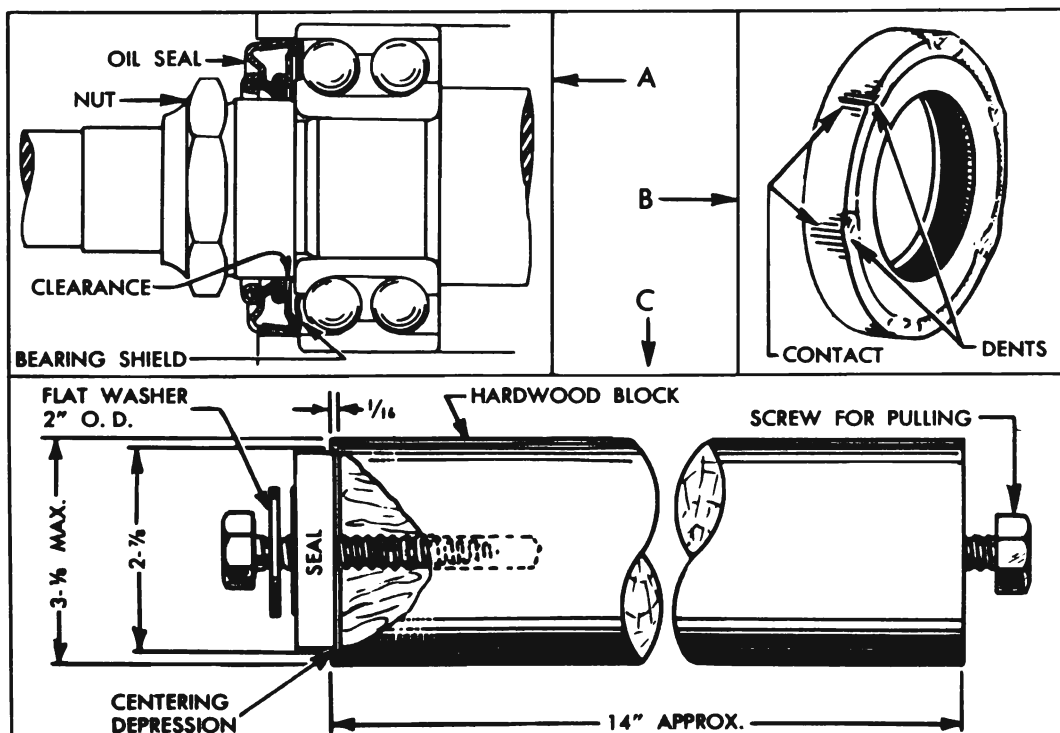

Figure 5-18—Installation Details for Pinion Bearing Oil Seals
1. In order to check the oil seal for proper fit in differential carrier the tool shown in figure 5-18, view C must be prepared locally. Note that oil seal is secured to end of tool by the screw and washer.
5. To expand the seal for better fit, use a light hammer to carefully dent the bead on rear side at six evenly spaced points. See figure 5-18, view B. **CAUTION:** *Original bead height must be retained over most of the seal since the bead spaces seal from front bearing shield to prevent interference.* See figure 5-18, view A.
6. After denting seal, fit it into carrier bore as previously explained. When removed, the outer surface should have evenly spaced scratches at all dents. See figure 5-18, view B.
7. When seal has been properly fitted to carrier bore, place it on the pinion bearing lock nut with inner leather seal pointing away from hex of nut. See figure 5-18, view A.